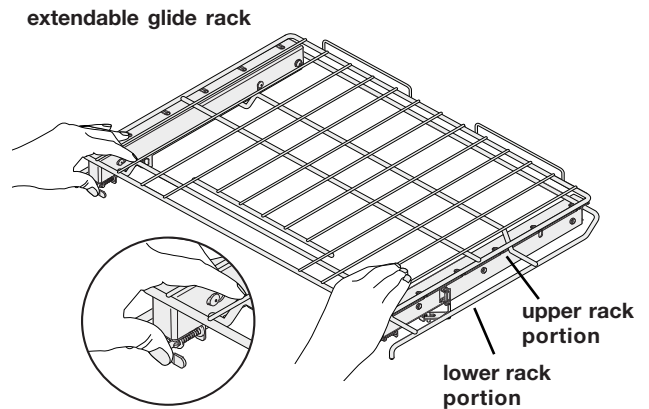
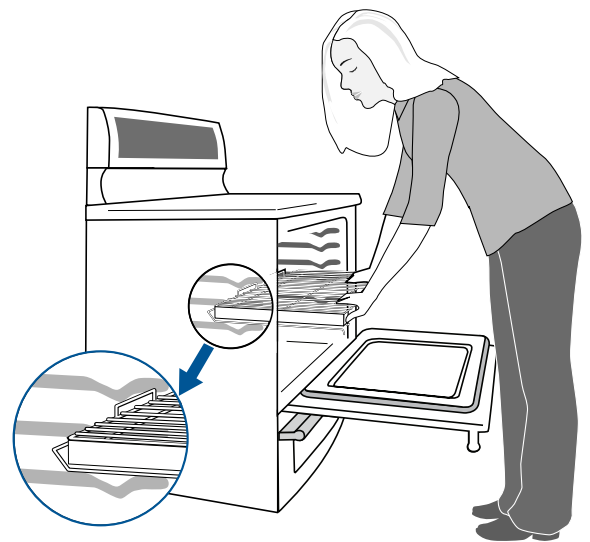

Fig. 1
Fig. 2
- **To remove** use thumbs to press in on both left and right spring-loaded release levers -*Fig. 1*. Place the remainder of both hands over the upper front of the glide rack. While pressing in on both levers, pull the rack straight out **slightly** and release thumb levers. Using both hands grasp **both the upper and lower portions** of the glide rack -*Fig. 1*; pull rack using both hands straight out until reaching the stop position -*Fig. 2*. At the stop, lift up front of rack slightly and continue to pull rack away from oven -*Fig. 3*. Be sure to hold on both upper and lower rack portions when removing from or handling rack outside of the oven - these rack portions move independently and are difficult to handle unless held together.